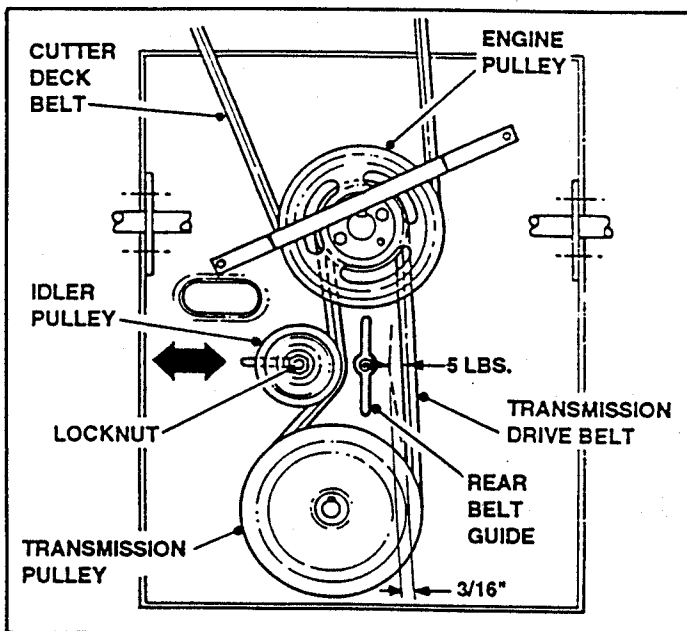

FIGURE 47
2. Slide Idler Pulley toward backside of Belt until Belt moves $3/16$ " with five pounds of pressure applied to Belt between Engine and Transmission Pulleys. Tighten nut to secure Idler Pulley. See Figure 47.